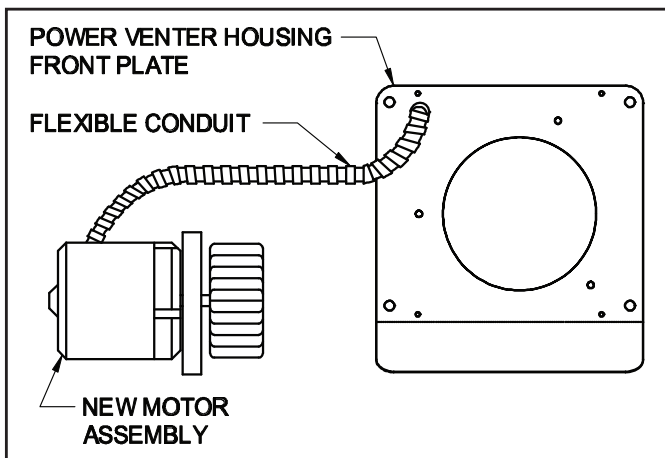

Figure 11
1. Insert the blower wheel through the hole in the front plate of the power venter housing. (See Figure 11)